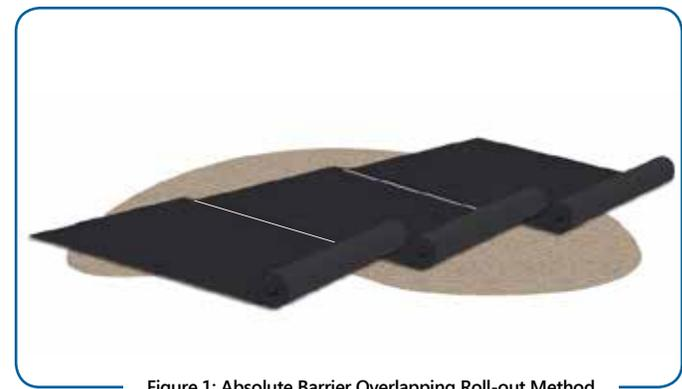

Figure 1: Absolute Barrier Overlapping Roll-out Method
1.2 Unroll Absolute Barrier® running the longest dimension parallel with the direction of the pour and pull open all folds to full width, remove as many wrinkles as practical (Figure 1). Overlap edges 6" in preparation for thermal seaming. This overlap area must be cleaned of all dust, dirt, water and foreign debris no more than 30 minutes prior to the heal seaming operation.